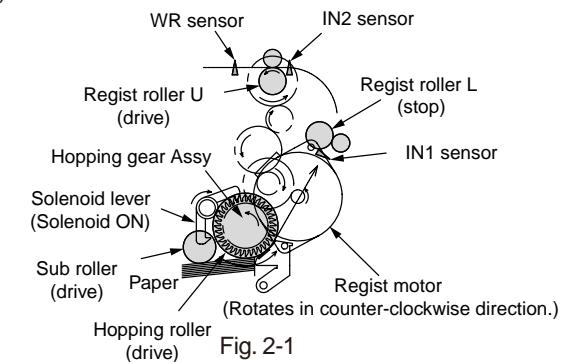

Fig. 2-1
1. When the regist motor rotates (in counter-clockwise direction) while the solenoid is activated to the ON state as shown in Fig. 2-1, the paper is transported until the IN1 sensor is turned ON. (When the solenoid is turned ON, the feed paper roller is driven.)